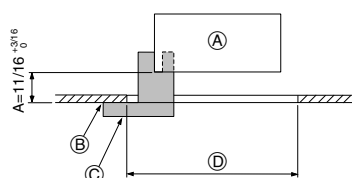
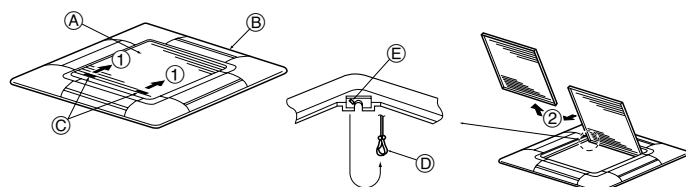
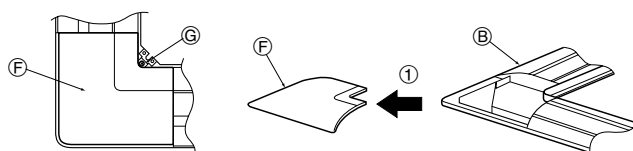

Fig. 9-2
Fig. 9-3
Fig. 9-4
①	Grille	1	950 × 950 (mm), 37 - 3/8 × 37 - 3/8 inch
②	Screw with captive washer	4	M5 × 0.8 × 25
③	Gauge	1	(Divided into four parts)
④	Fastener	2
⑤	Screw	4	4 × 8
⑥	Wired remote controller	1	for PLP-42AAMD
9.2. Preparing to attach the grille (Fig. 9-2)
- With the gauge ③ supplied with this kit, adjust and check the positioning of the unit relative to the ceiling. If the unit is not properly positioned relative to the ceiling, it may allow air leaks or cause condensation to collect.
- ① Main unit
- ② Ceiling
- ③ Gauge ③ (inserted into the unit)
- ④ Ceiling opening dimensions
9.2.1. Removing the intake grille (Fig. 9-3)
- Slide the levers in the direction indicated by the arrow ① to open the intake grille.
- With the intake grille in the "open" position, remove the hinge of the intake grille from the grille as indicated by the arrow ②.
9.2.2. Removing the corner panel (Fig. 9-4)
- Remove the screw from the corner of the corner panel. Slide the corner panel as indicated by the arrow ① to remove the corner panel.
- ① Intake grille
- ② Grille
- ③ Intake grille levers
- ④ Grille hook
- ⑤ Hole for the grille's hook
- ⑥ Corner panel
- ⑦ Screw